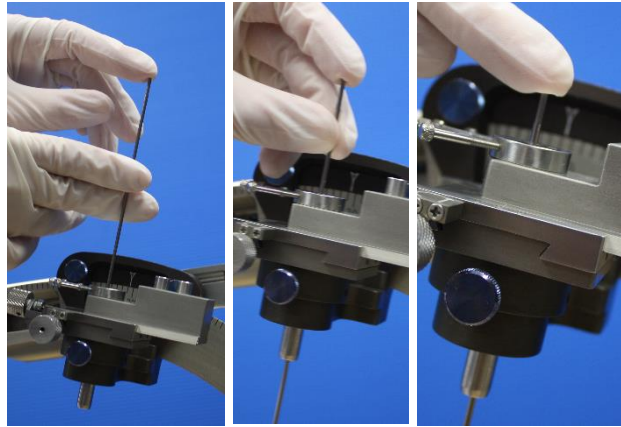

Figure 39: Inserting the Cannula through the Bengun Hole
3. Holding the cannula from the stylet collar, insert the cannula through the Bengun hole (*Figure 39*) and into patient's tissue.